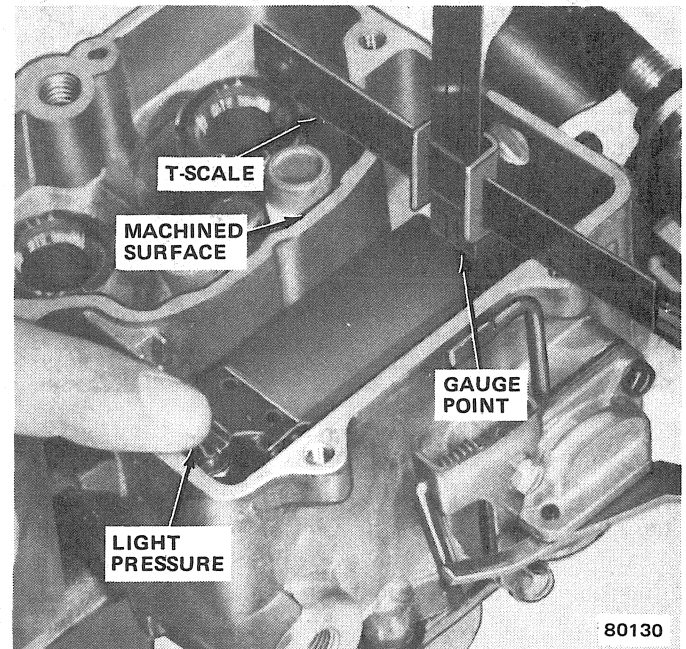

Fig. 1J-131 Float Level Adjustment—Dry
(1) Remove air horn assembly and gasket. Raise float by pressing down on float tab until fuel inlet needle is lightly seated.
(2) Use T-scale to measure distance from fuel bowl machined top surface to flat surface on either corner of float at free end. Refer to Specifications for correct dimension.
(3) Bend float tab to adjust. Hold fuel inlet needle off its seat while adjusting to prevent damage to Viton-tipped needle (fig. 1J-131).